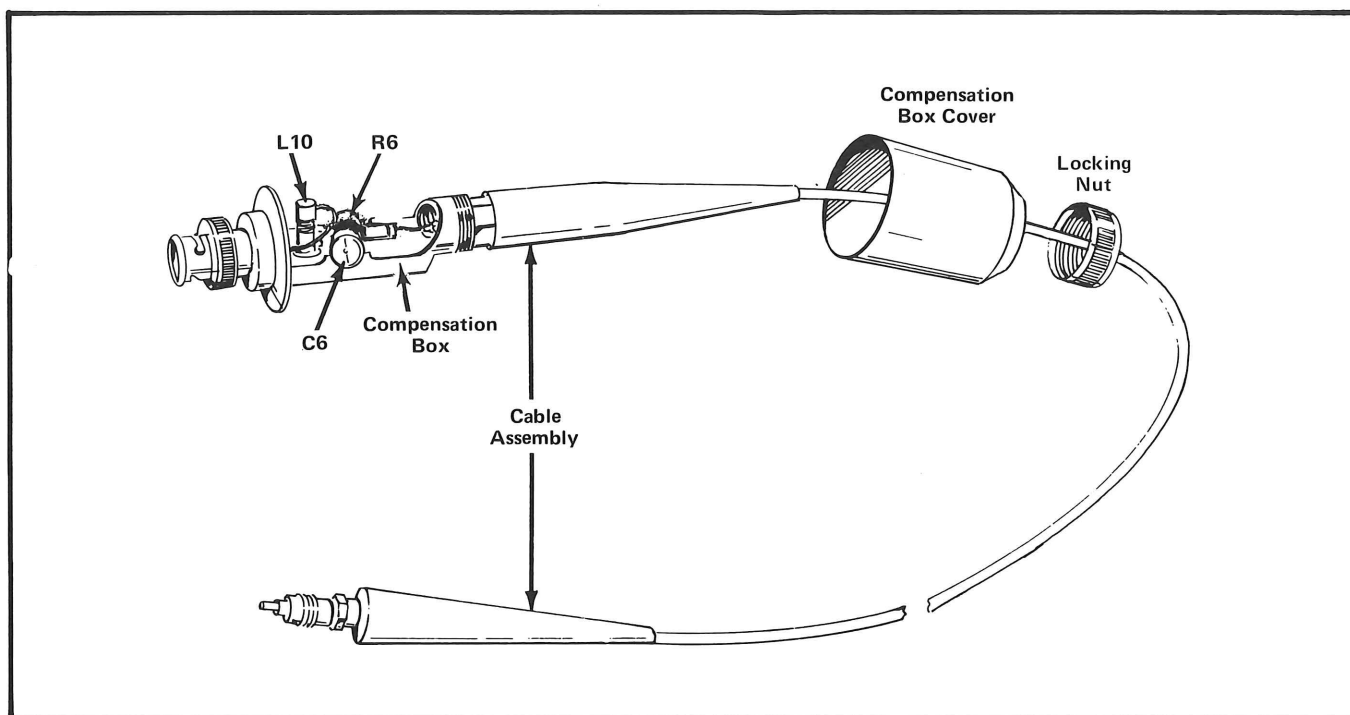

Fig. 3-2. P6008 Probe Compensation Box Assembly.
1. Remove the Compensation Box Cover by unscrewing the Locking Nut that holds it in place (see Fig. 3-2).